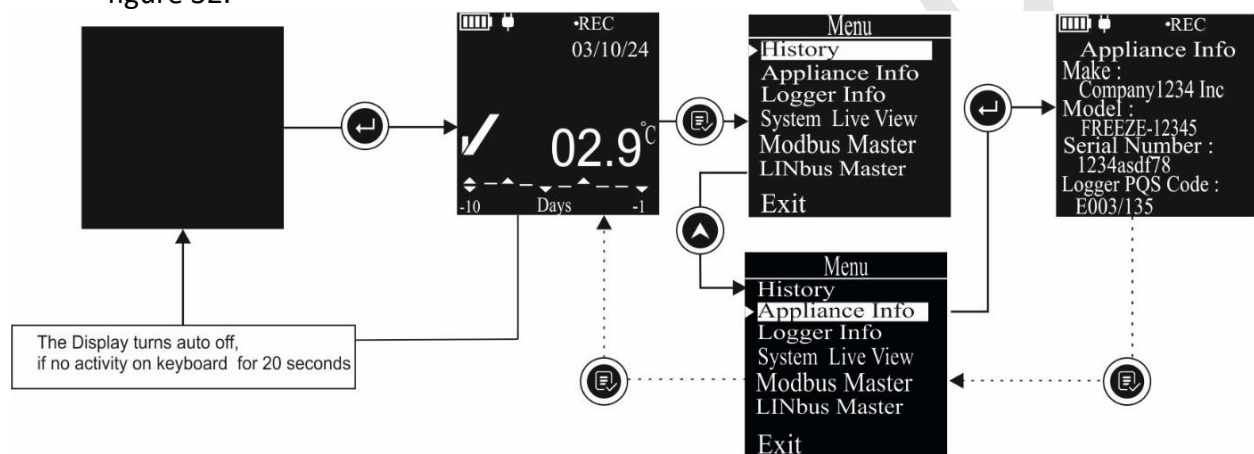

Figure 32 Appliance Information Menu
- Access the main Menu and select the Appliance Info option as per the steps shown in figure 32.
Note: The information shown in figure 32 are for example purpose only.